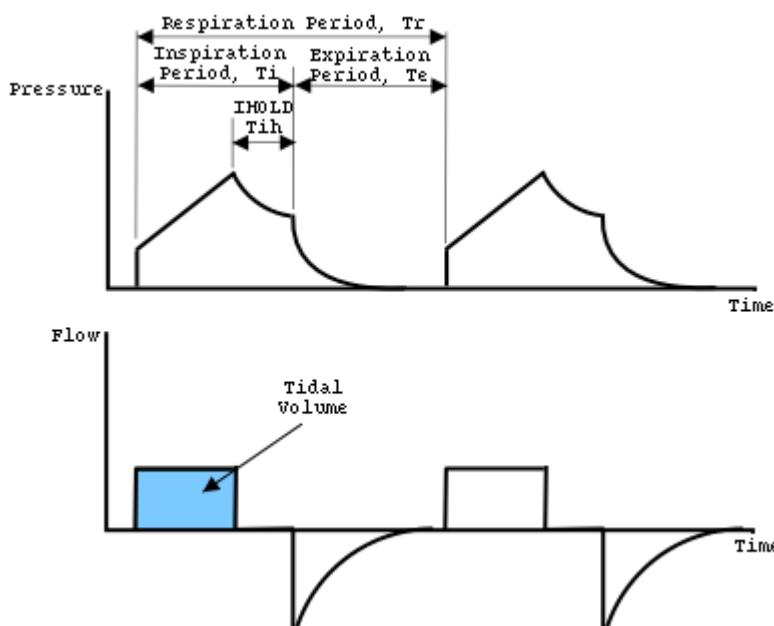
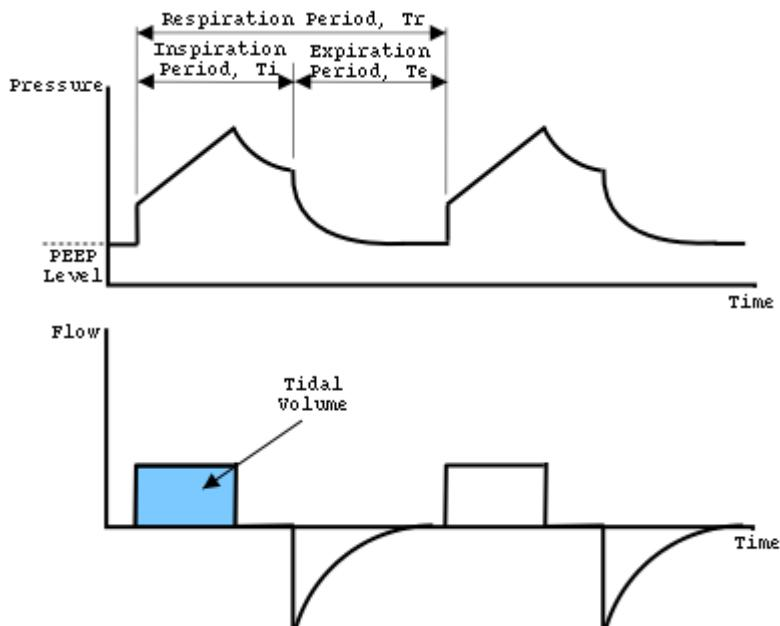
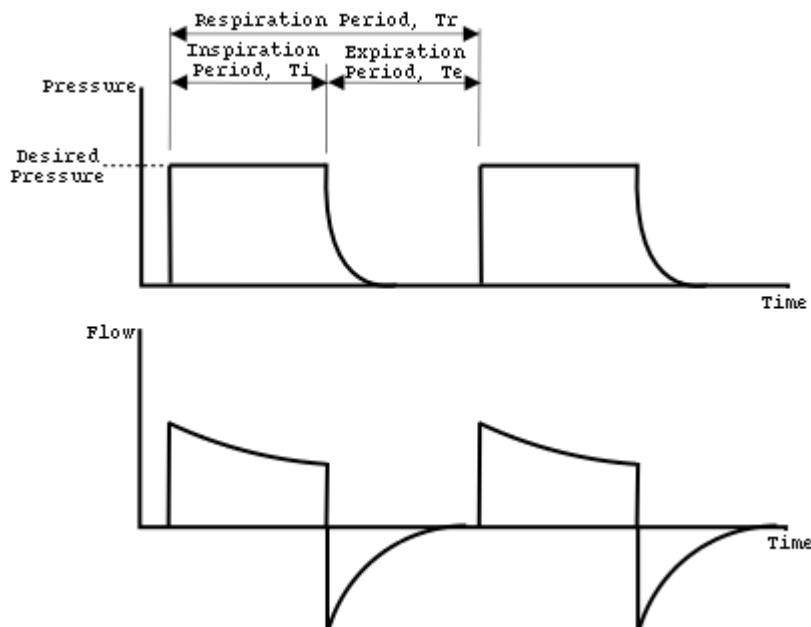

Figure 24: Volume Controlled Ventilation Pressure and Flow Waveforms without PEEP
Figure 25: Volume Controlled Ventilation with PEEP
Figure 26: Pressure Controlled Ventilation Waveforms
Pressure and flow waveforms for Volume Controlled Ventilation are shown in Figure 24
Figure 25 shows volume controlled ventilation with a PEEP level set.
From Figure 24 and Figure 25, the Respiratory Time, $T_r = 1 / \text{Rate}$, and the Inspiratory Time, $T_i = T_r / (1 + \text{IE Ratio})$.
- From Figure 24 and Figure 26, the IE ratio corresponds to $T_i : T_e$
- As shown in Figure 24, the inspiration hold time is marked as T_{ih} and is included in the inspiration time, T_i
- Pressure and flow waveforms are shown in Figure 26